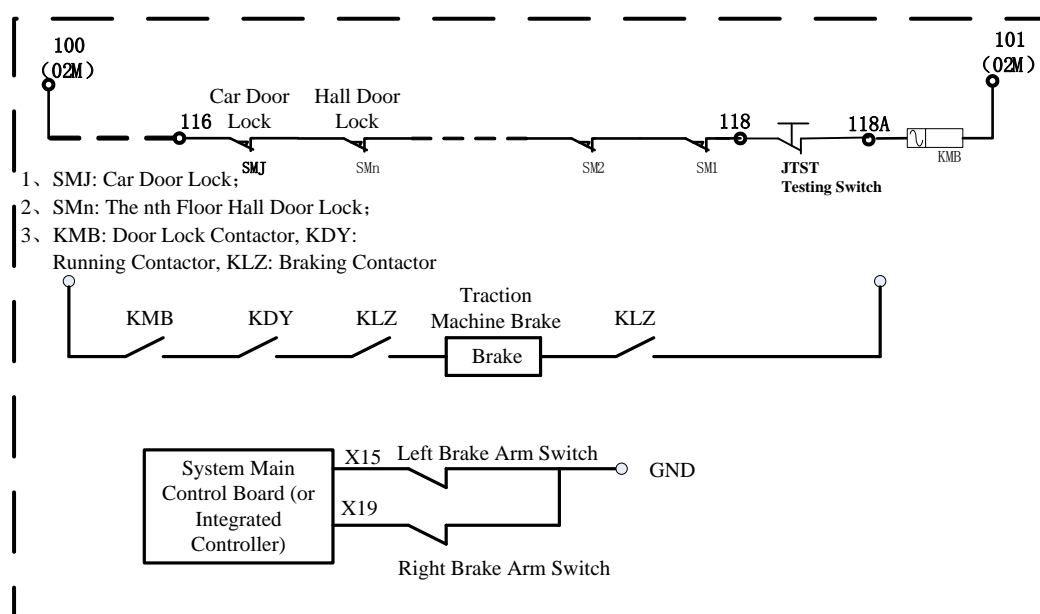

Figure F10.1 Control Loop Diagram of the Braking System
- For elevators that do not have functions to open the door in advance or while car is in leveling, re-leveling or other operations, under certain conditions, and the braking device is operated by a well standard approval machine brake. Testing of unintended car movement is not required. (If a testing is demanded, install additional switch according to figure F10.1. The test can be performed by manually opening the switch when elevator is in leveling position, inspection mode and leaving the leveling zoom. This scheme is to simulate the situation that car door or hall door is open. And prevent door mechanism break caused by really open it.)